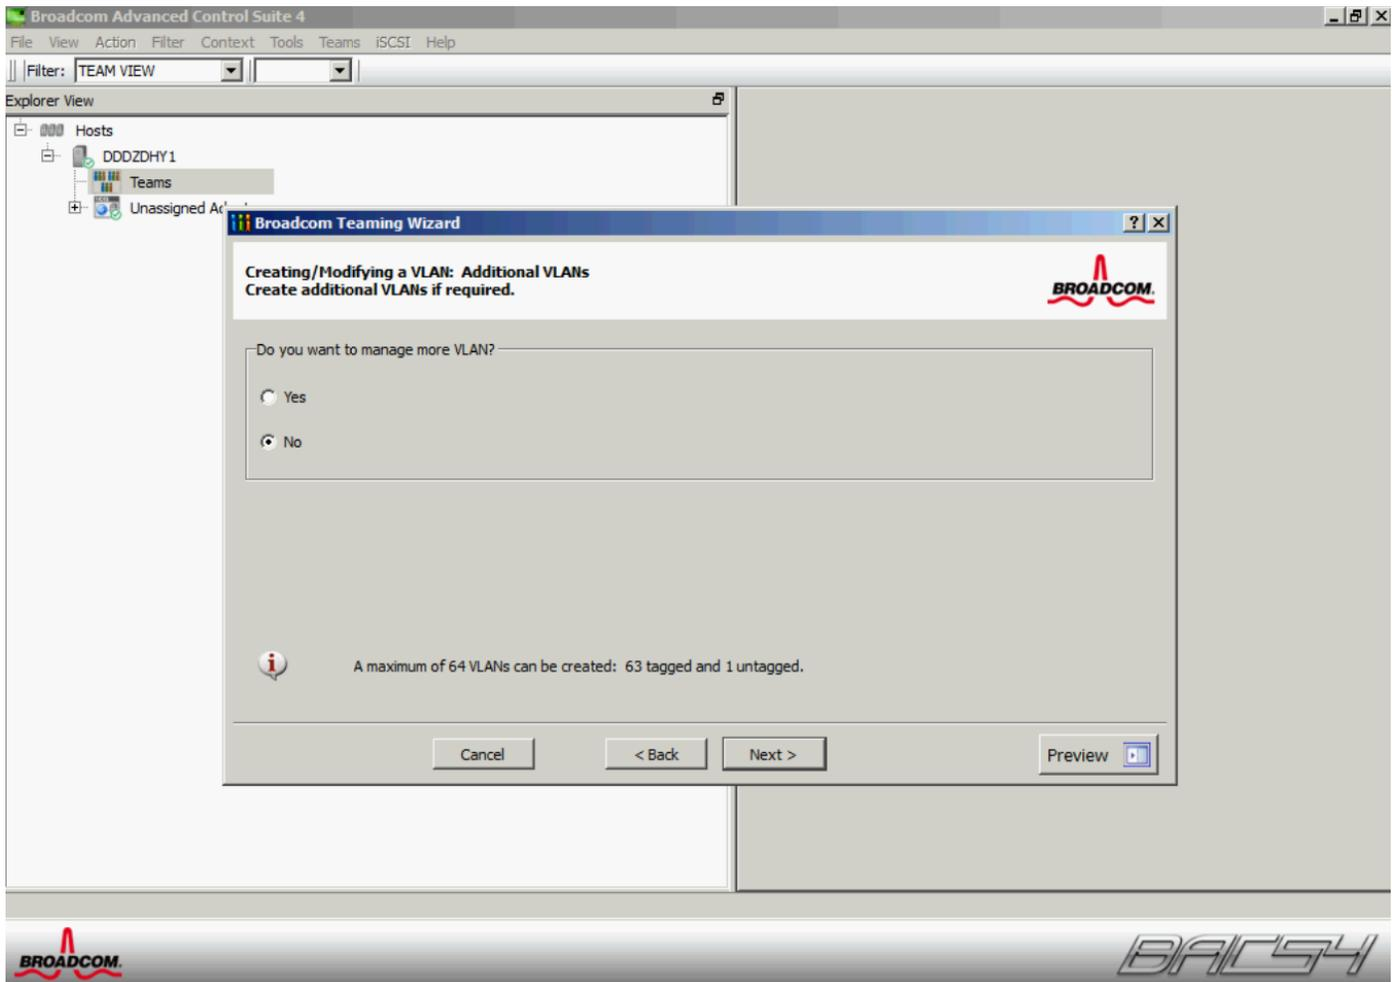

Figure 23 Confirming no other VLANs need to be added
17. Since there are no other VLANs to manage in this example, select **No** (Figure 23) and click **Next**.